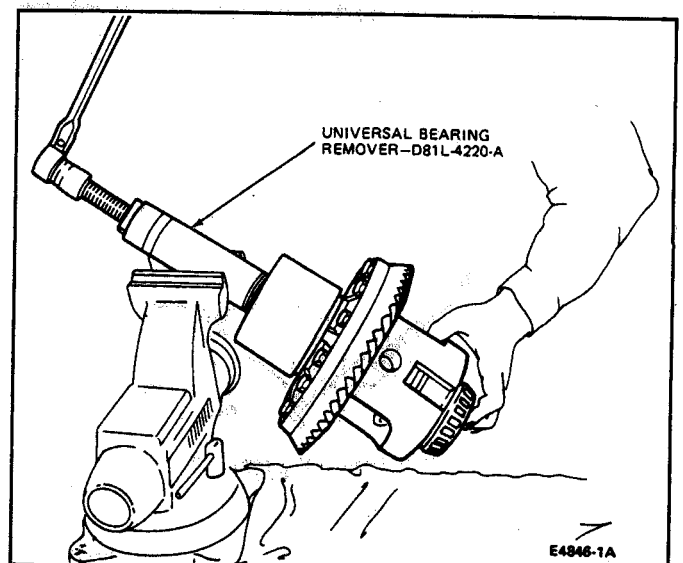

FIG. 22 Differential Side Bearing Removal
13. Remove the differential case bearings and shims from the case. Place Step Plate, D80L-630-5 under bearing to protect the bearing. Install Universal Bearing Remover, D81L-4220-A and remove the bearing as shown in Fig. 22. Turn the case over and remove the other bearing.